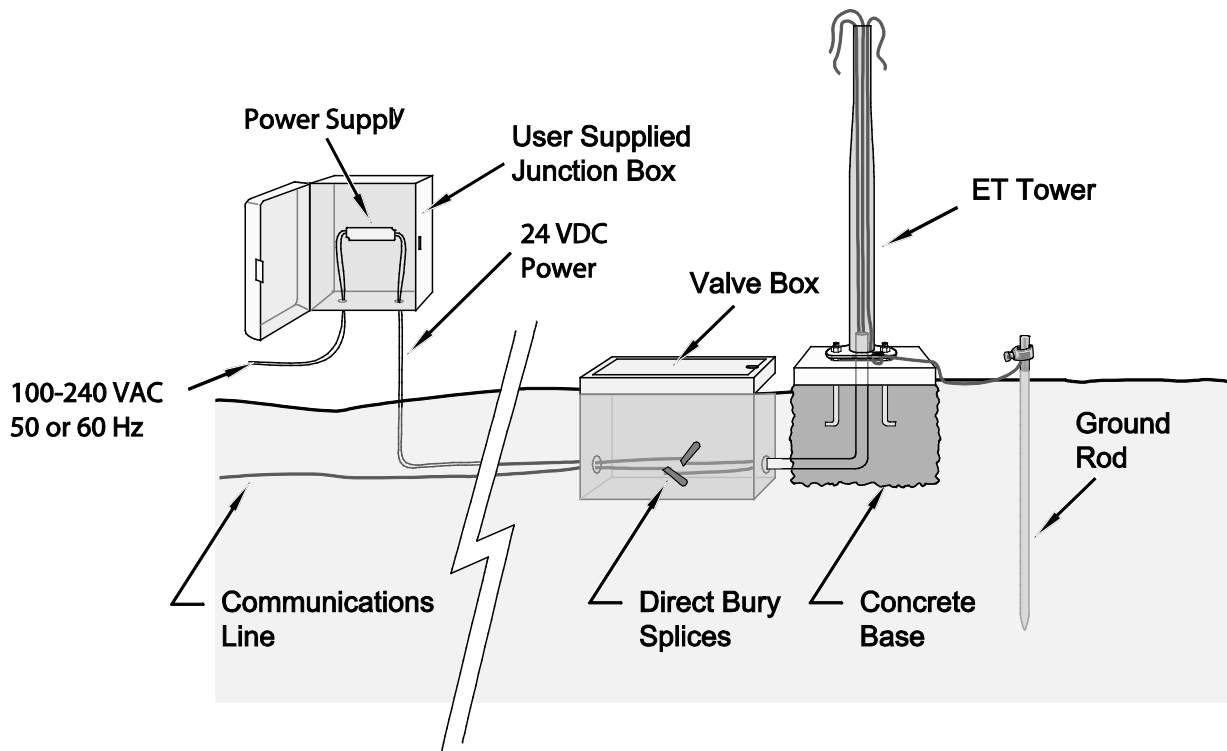

FIGURE 2-1. ET tower installation with currently-available AC power option
Wire, conduit, and junction boxes as needed (see FIGURE 2-1).
User supplies valve box at base of station and weatherproof enclosure for transformer. See FIGURE 2-1.
Dedicated single twisted pair with shield phone line to the weather station valve/junction box (see FIGURE 2-1).
Direct burial cable with a minimum of 2-twisted pairs with shield (minimum 5 conductors total) to travel from the weather station to the central computer junction box. Direct burial armored cable may be required for rocky soils or rodents (Anixter pn F-02P22BPN (phone 847-677-2600)) or equivalent type cable (see FIGURE 2-1).
The ET Tower provides a support structure for mounting the T107 weather station components. FIGURE 2-1 shows a typical ET Tower installation option. The tower is designed to withstand winds of 100 mph. The lightning rod assembly is attached after the instrumentation enclosure is installed.
**NOTE** User supplies valve box at base of station and weatherproof enclosure for transformer. See FIGURE 2-1.